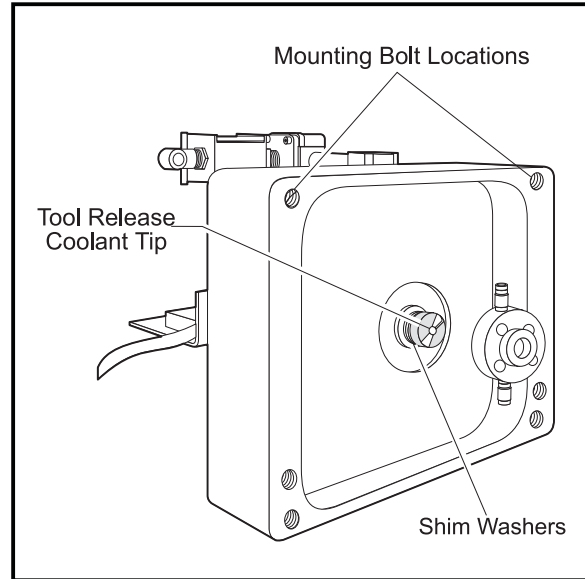

Figure 4. Coolant Tip (TSC machines only).
6. Press MDI and turn hand wheel to zero (0). Press HANDLE JOG button. Jog the Z-axis in the positive (+) direction 0.100".
- If the block is tight at 0.070 or less, the Coolant Tip (Figure 4) must be replaced. Replace coolant tip and seal housing at the same time (TSC Service Kit 93-9000A).